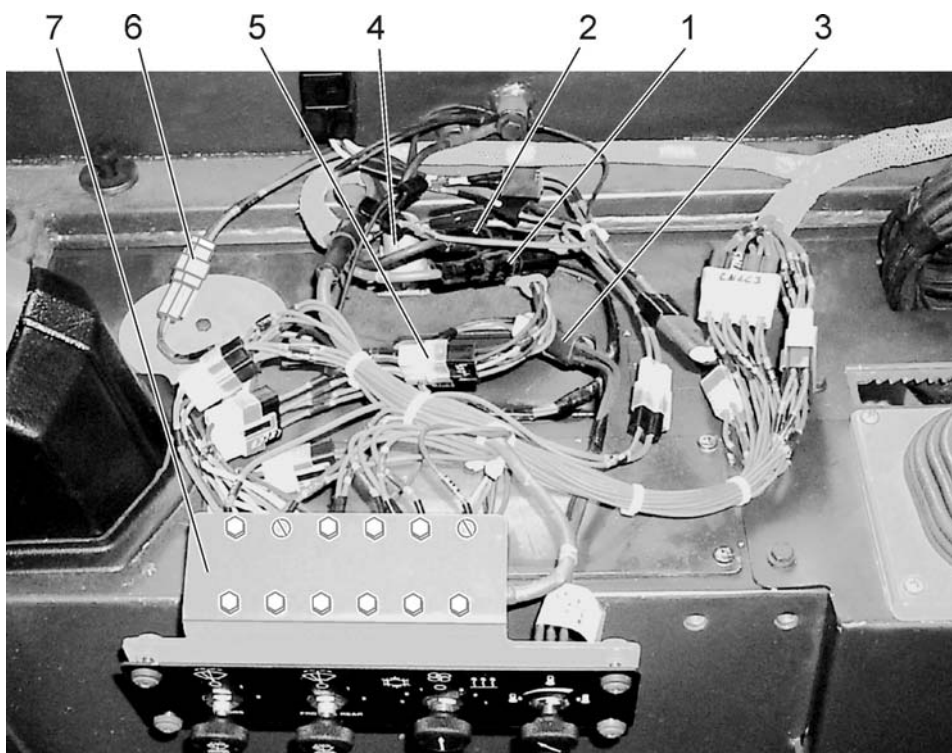

Fig. 13.2. Control Panel Disconnecting Points
6. Disconnect electrical connectors for two cables (1 and 2, Fig. 13.2), supply (+) and ground (-) of the cab electrical system.
7. Disconnect heater control potentiometer wire harness plug (3) and A/C heater switch wire harness plug (5).
8. Disconnect cab head lamps wire harness plug (4) and ROPS lamps plug (6).
5. Reconnect cab head lamps wire harness plug (4, Fig. 13.2) and ROPS lamps plug (6).
6. Reconnect heater control potentiometer wire harness plug (3) and A/C heater switch wire harness plug (5).